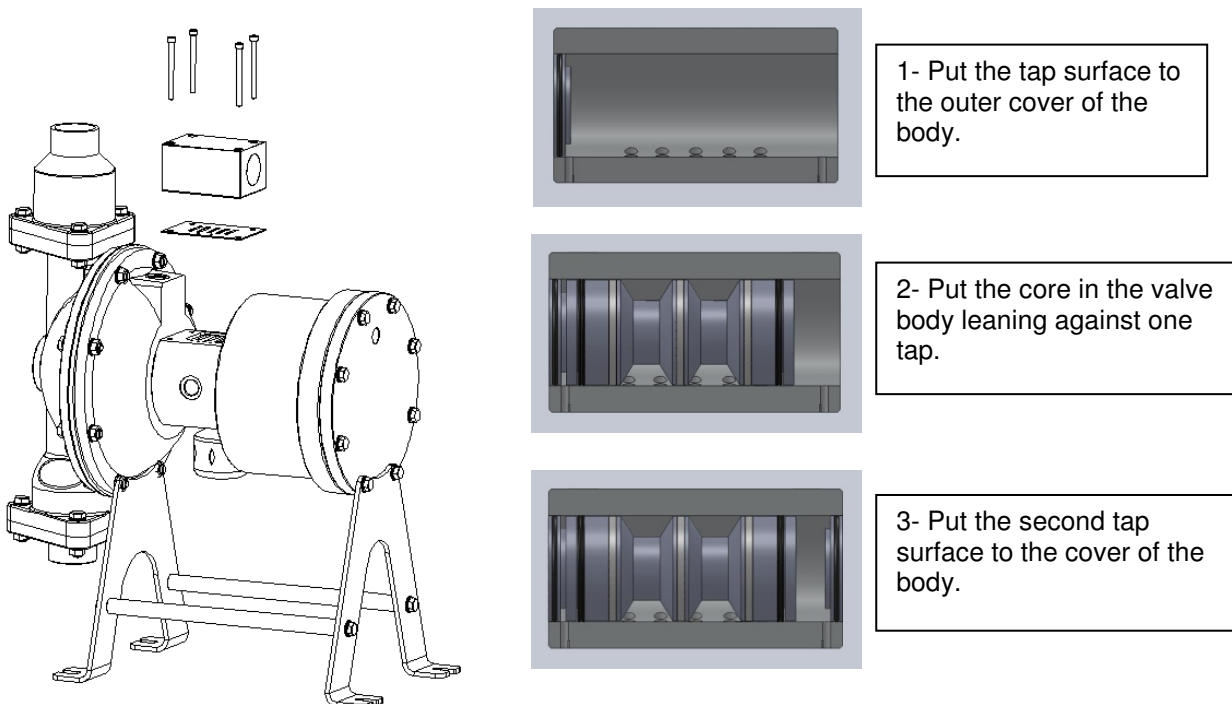

Figure 12- Air valve repair.
- 2-Dismantle screws fixing valve. See figure 12.
- 6-Cap on the side you pushed with your finger during previous step must be straightened since it moves into valve. Reset the direction of valve by placing it on a flat surface and by pushing it with your finger from the other open side to valve internal core, **base valve core absolutely on valve cover**. (See figures 12; 1-2-3)